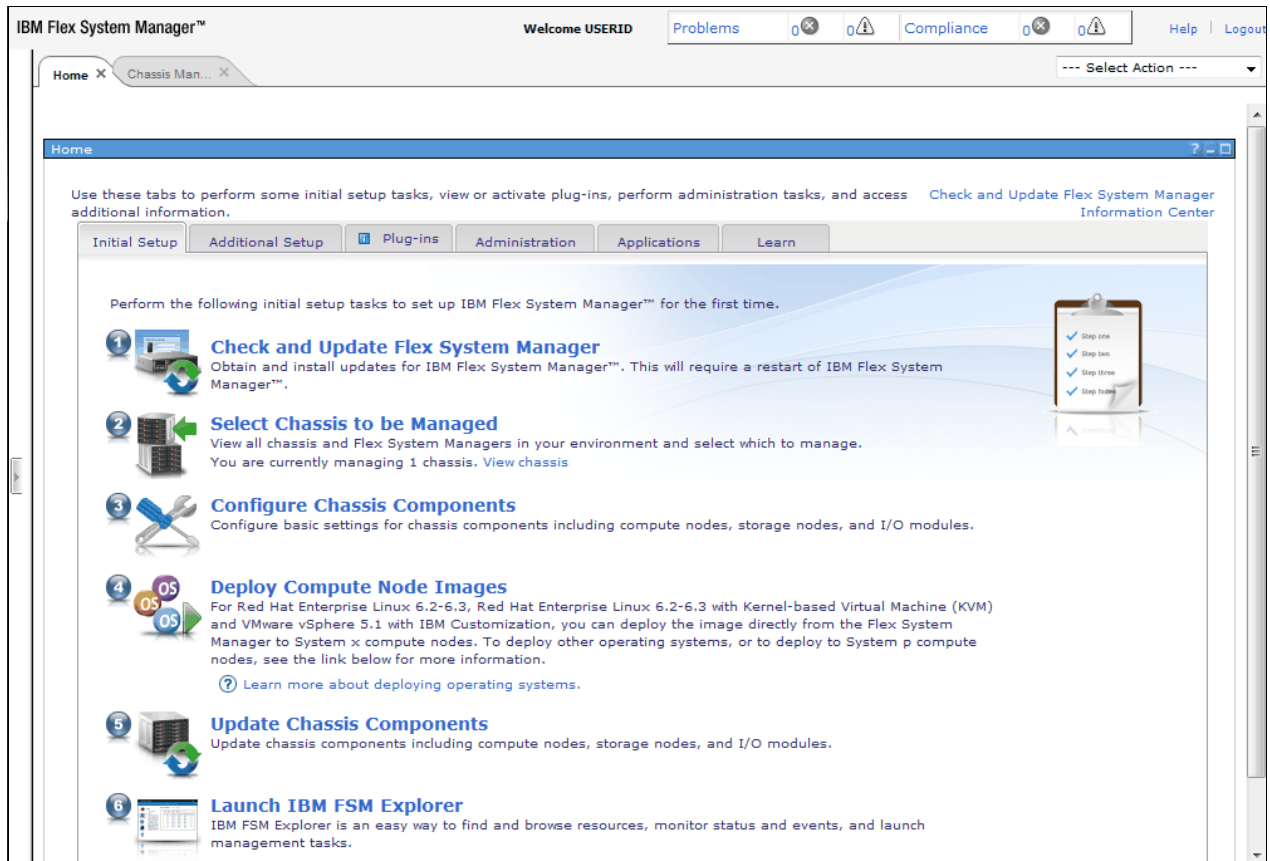

Figure 3-46 FSM - Startup Page
- After a successful login, you are taken to the default Home page of IBM Flex System Manager. Figure 3-46 shows the FSM Home page.
The home page, shown in Figure 3-46, has six tabs that help you with setting up and administering the system: